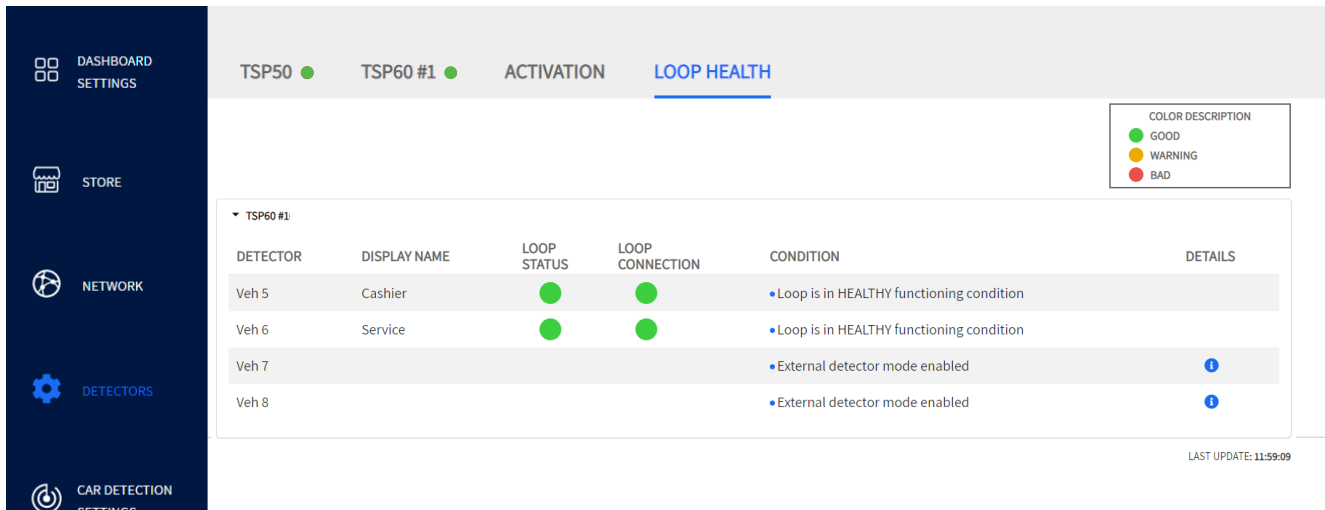

Fig. 6.6
**CONDITION:** The information presented in this column provides an assessment of both LOOP STATUS and LOOP CONNECTION combined with possible recommendations if necessary. For example, see Veh 5 in Fig. 6.6, a loop with two green indicators means everything is functioning well, your loop is in good health. However, two red indicators is a critical problem that will prompt you to call HME Technical Support for a corrective solution.